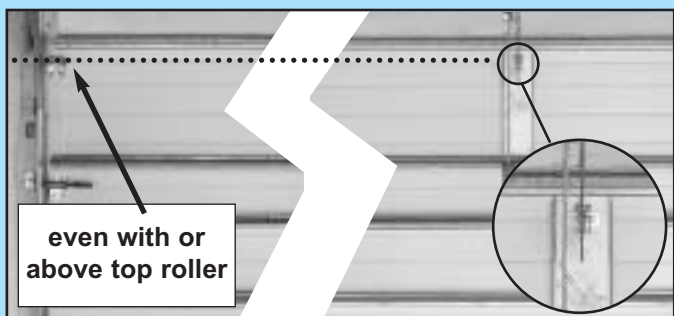

FIG. 2-7 Mounting door Bracket (sectional).
NOTE: In the case of sectional type doors, door bracket must be mounted **NO LOWER THAN top set of rollers** (Fig. 2-7).
- Position rail/power head assembly (**Fig. 2-7**).